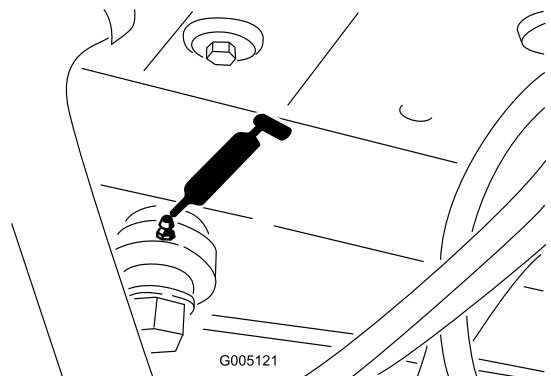

Figure 43
- Power steering cylinder (Figure 43)